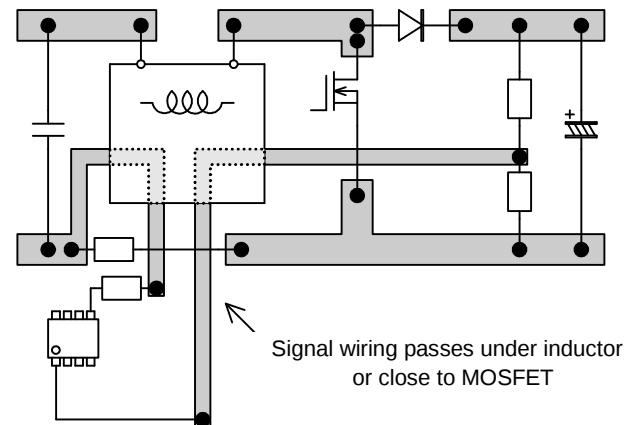

Fig.34 Example of inadvisable pattern
- Signal wiring is placed under inductor or near MOSFET or diode (Fig. 34)